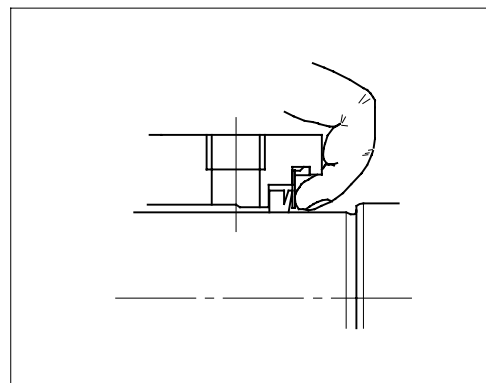
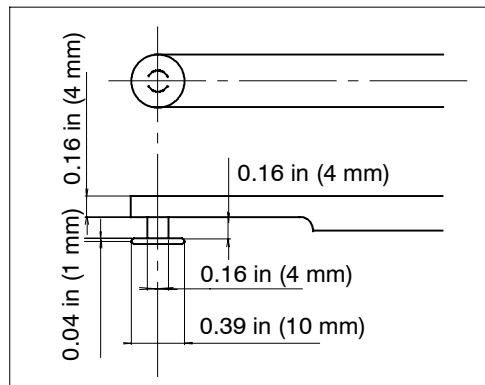

Fig. 17
Fig. 18
- 8 After all other parts have been installed, push the plate (550.01) into the groove in the cover plate for seal (471.01) so that the entire rubber lip settles straight in the groove. Fig. 17. To make sure that the lip is correctly situated, use a tool shown in Fig. 18. Place the tip of the tool into the groove and turn around the cover plate for seal.